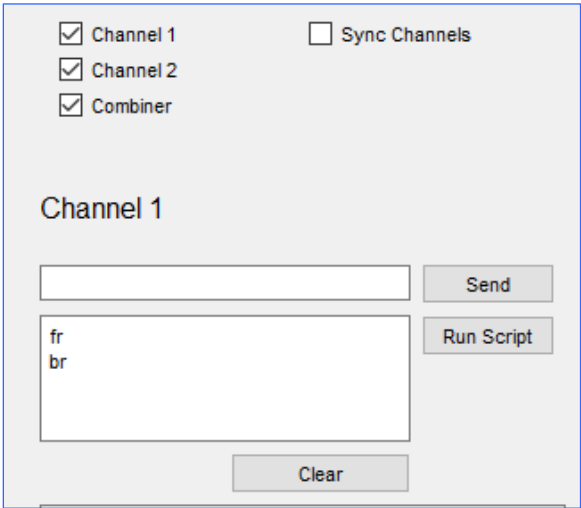

Figure 79: Rack RDMS Terminal Screen with Script Command Window
1. Type the script into the larger text box below the channel title, as shown in Figure 79.